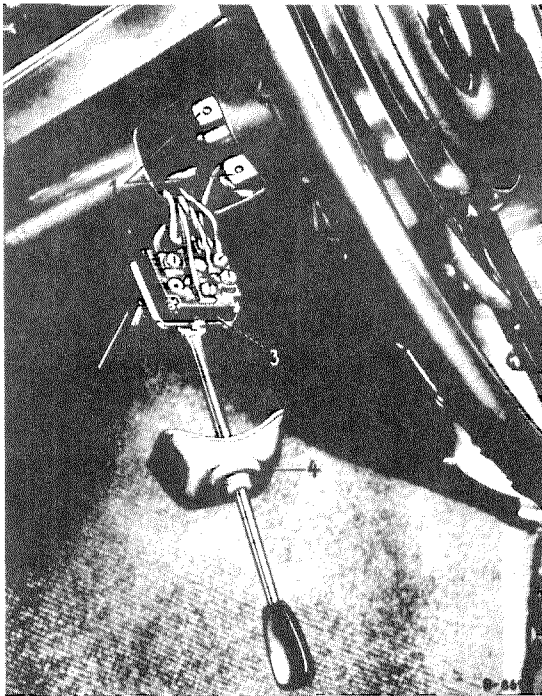

Fig. 54-17/1
2. Pull the rubber sleeve (4) out of the steering column jacket and push it back (Fig. 54-17/1).
3. Unscrew the two cross-recess head screws on the angle bracket (2) from the base (1) of the steering column jacket.
4. Pull the switch (3) outward and disconnect the electric cables (Fig. 54-17/1).